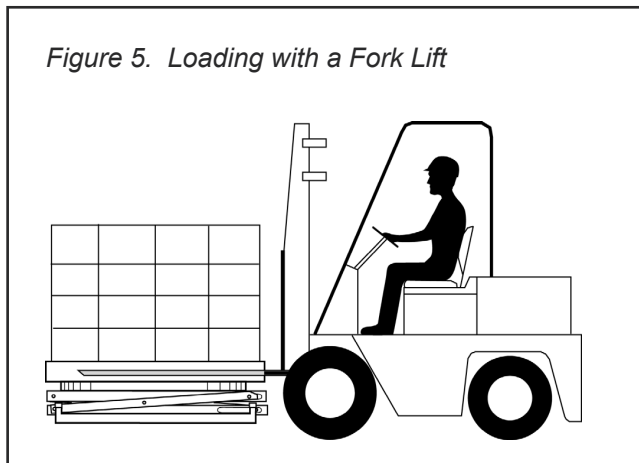

Figure 5. Loading with a Fork Lift
1. Place the load on the lift, then lower the fork lift. Before removing the load, be sure the unit is carrying the weight, not the fork lift. See Figure 5.